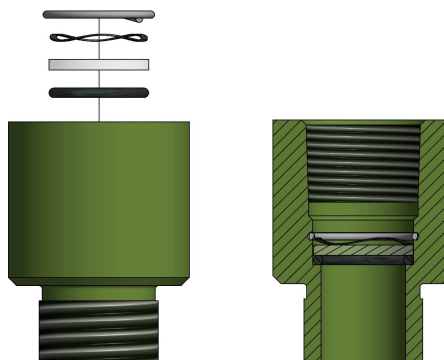

Figure 1: Heat Insulation Glass Installation
1. If heat insulation glass AGG02 is not needed, go to step 2. Place thermal barrier **THERMAL-75X75** so that the end with internal threads is facing up. In order, drop in the O-ring, glass, wave washer, and snap ring as shown in Figure 1. The snap ring should snap into the annular groove of **THERMAL-75X75**.